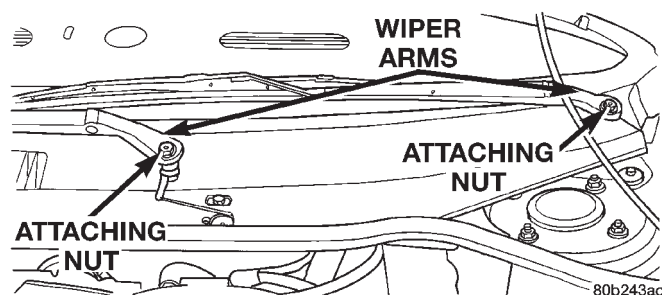

Fig. 3 Wiper Arm Attachment To Pivot
(4) Remove caps from both wiper arms at the attachment to the pivots to expose the wiper arm attaching nut. Remove the nut (Fig. 3) attaching each wiper arm to its pivot.